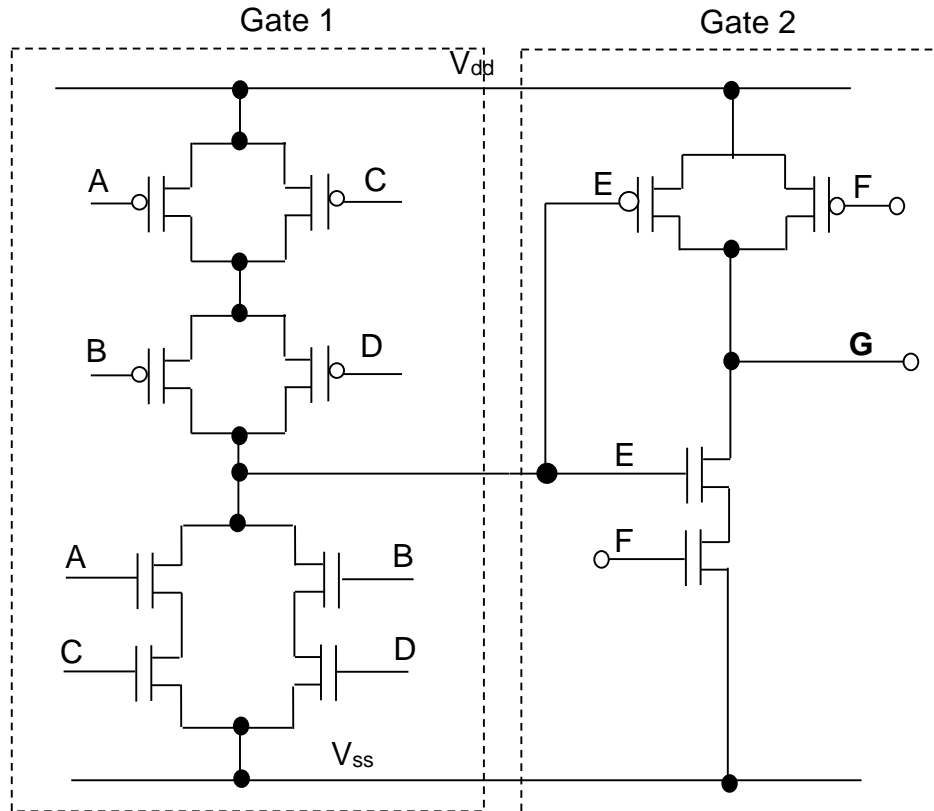

Figure Q3
- (a) For the CMOS complex gate shown in Figure Q3, state the boolean equation at point **G**. (5 marks)